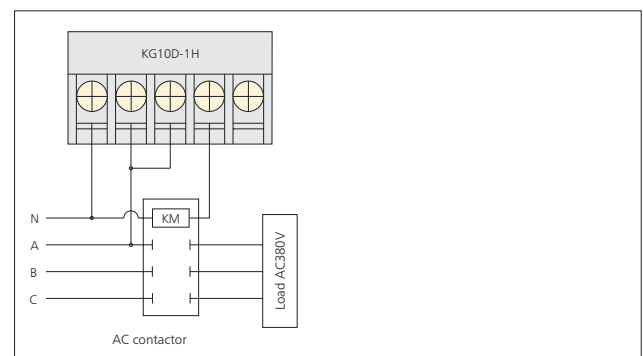

Figure 3 KG10D-1Z
3.2 KG10D-1Z is 1 ON/ 1 NC and see Figure 3 for wiring method;